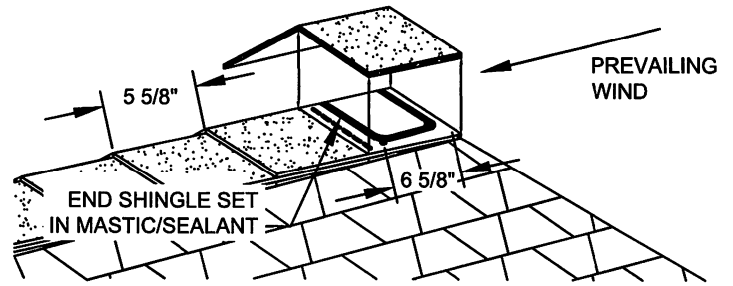

Figure 21 - Installation of RidgeFlex™ Shingles; End Cap Set in Mastic
Should adverse conditions exist (like high winds), the end cap can also be face-nailed. Place two (2) nails on each side, 1" (25 mm) back from each end, and 1" (25 mm) up from the sides. Cover the nailheads with a dab of sealant. (See Figure 21)